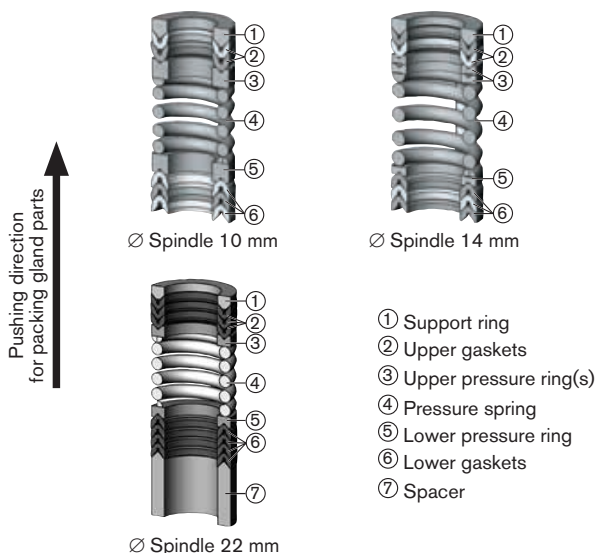

Fig. 2: Seal sets for packing glands
- Place the individual parts on the spindle in the specified direction and sequence (see "Fig. 2", page 8).